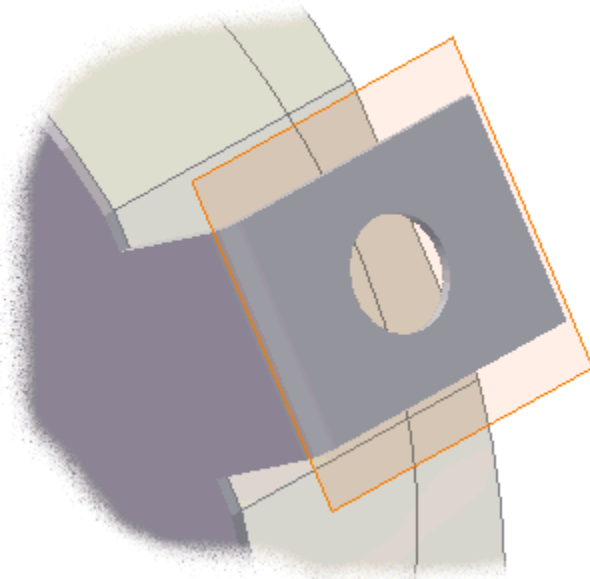

Figure 18: Completed sheet metal face.
5. Exit the sketch and create a sheet metal face. Click the Select Edge tool in the Face dialog box, and then click the adjacent parallel edge on the cover to add a bend between the two faces. Your part should match Figure 18.